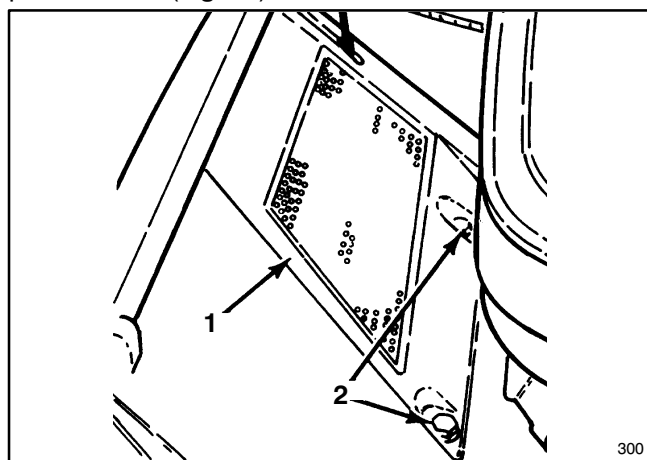

Figure 32
2. Remove two 13 mm (1/2") self-tapping screws securing panel screen to mower deck and remove panel screen (Fig. 32).